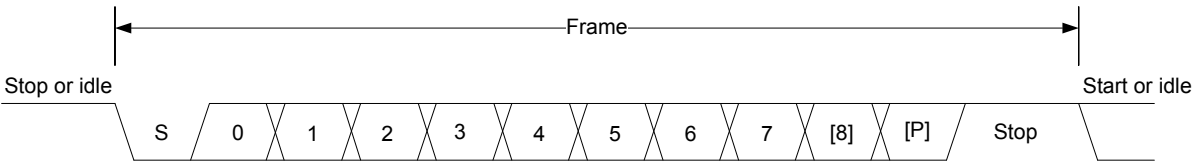

Figure 19.2. LEUART Asynchronous Frame Format
The frame format used by the LEUART consists of a set of data bits in addition to bits for synchronization and optionally a parity bit for error checking. A frame starts with one start-bit (S), where the line is driven low for one bit-period. This signals the start of a frame, and is used for synchronization. Following the start bit are 8 or 9 data bits and an optional parity bit. The data is transmitted with the least significant bit first. Finally, a number of stop-bits, where the line is driven high, end the frame. The frame format is shown in Figure 19.2 LEUART Asynchronous Frame Format on page 587.